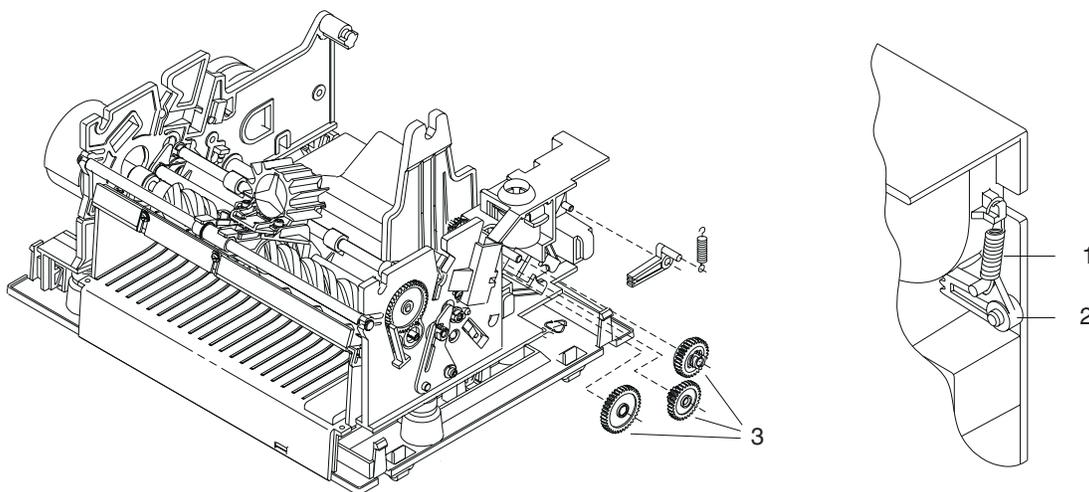

Figure 6-74. JNL Pawl and Drive Gears
- 1 Connect the pawl spring (1) to the pawl (2) and attach them to the side frame. Connect and attach the pawl spring and pawl as shown in Figure 6-74.